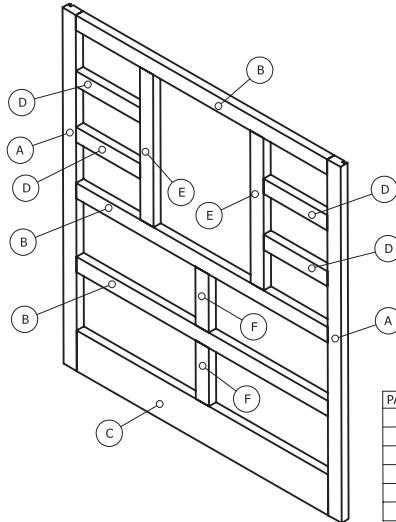

Figure 1
- (**17:13 - 17:33**) Cut all face frame and side/back panel pieces to size (do not cut internal cabinet panel, cabinet door or drawer pieces at this time. See figure 1, 2 & 3. Use stop blocks on your miter gauge to be certain all pieces that are to be an identical length are so. While you're at it, cut three 4" spacer blocks to use for equally spacing and marking the positions of the drawer rails (D) in the next step, below.
- **(17:34 to 20:02)** Lay out all of the face frame components on your benchtop with their **GOOD SIDES DOWN** and in their respective positions. See figure 1. Slide the center stiles (F) to the left and use a **SHARP** pencil or scribe to mark the positions of all the horizontal rails on the left stile (A). Start by aligning the bottom rail (C) with the bottom of the left stile (A). Draw a line on the stile, at the top of the bottom rail.